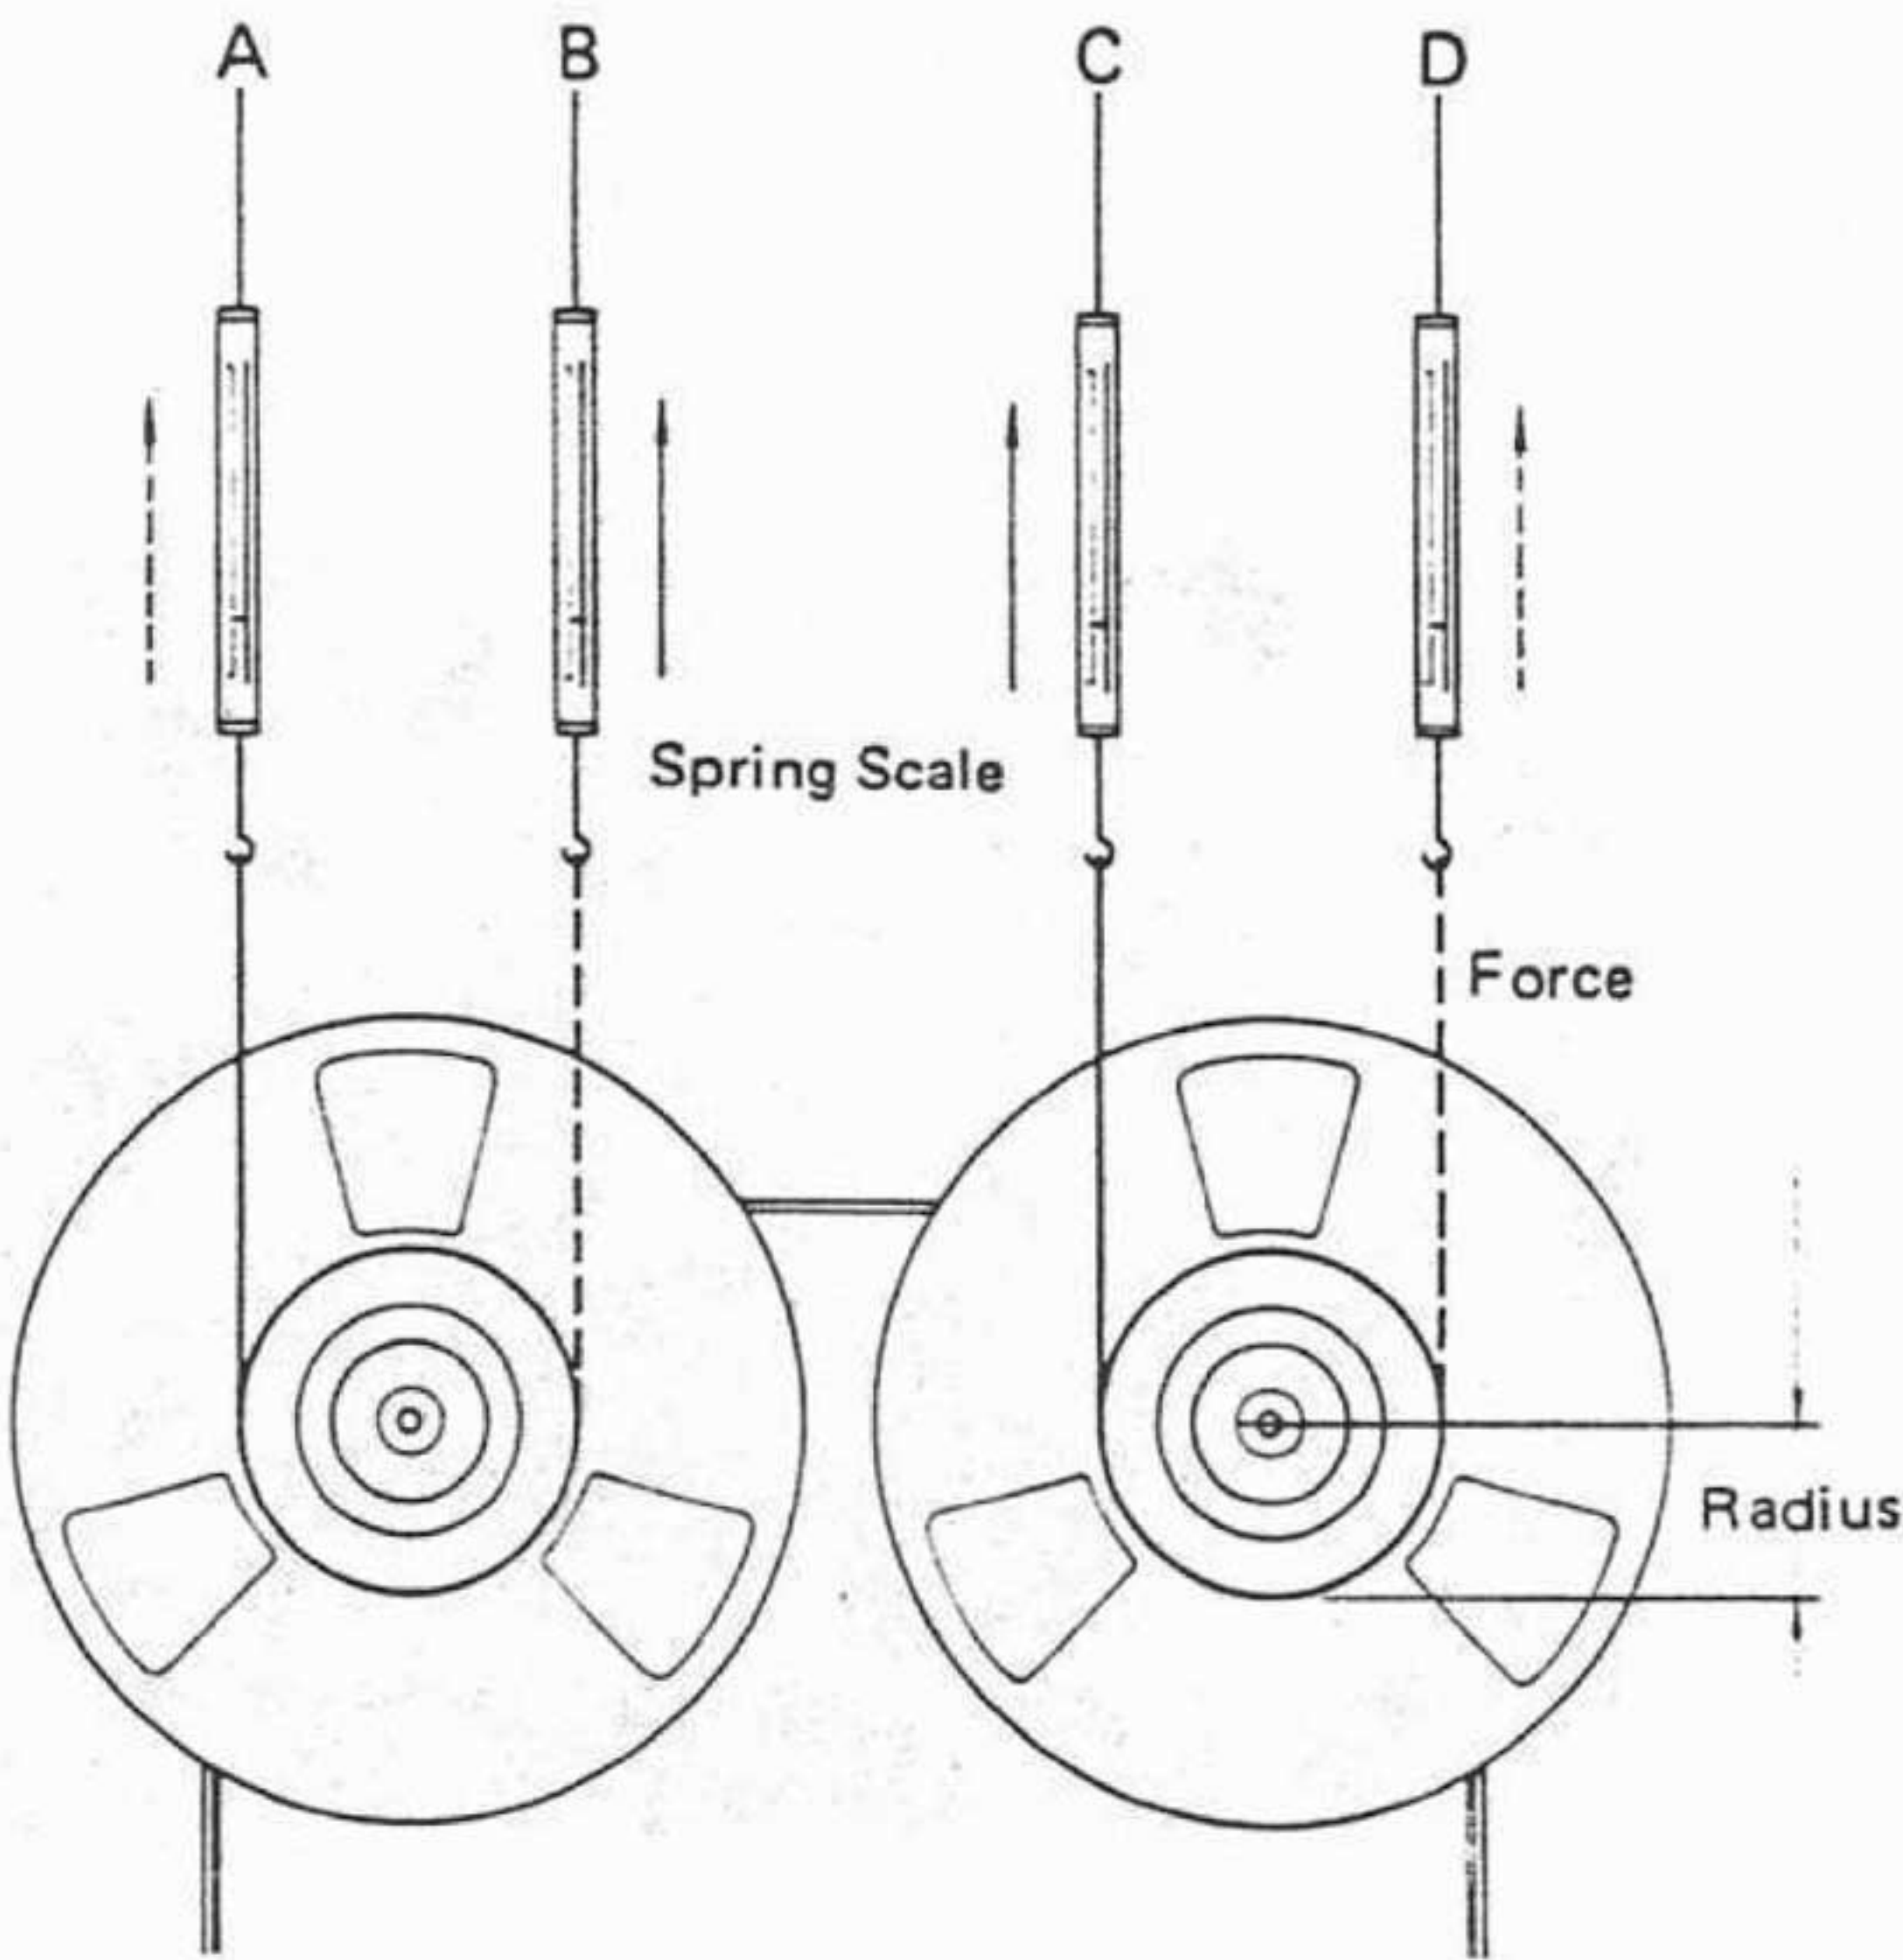

FIG. 16. BRAKE TORQUE MEASUREMENT
- 1. Mount an empty 10-1/2" reel onto either reel table and attach a spring scale to the reel with a string. See Fig. 16.
- 2. Smoothly pull the scale away from the reel under test and note the torque value when the reading on the scale is steady. Take the four measurements A through D shown in Fig. 16. The proper torque values are shown below the figure.
Forward Torque; B & C in Fig. 16	1700 – 2000 g-cm (23.6 – 27.8 oz-inch)